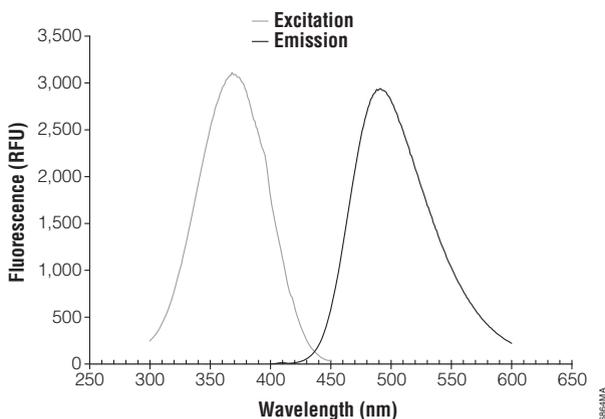

Figure 6. Optimal excitation and emission spectra for AFC.
**Optical Filters and Instrumentation:** Fluorogenic dyes exhibit distinct absorption (excitation) and emission profiles when a light energy source is applied. Most fluorometers or multimode instruments contain optical band-pass filters that restrict the wavelengths of light used to excite a fluorophore and the wavelengths passing through to the detector. Note that deviation from the optimal filter set recommendations (Figure 6) may adversely affect assay sensitivity and performance.